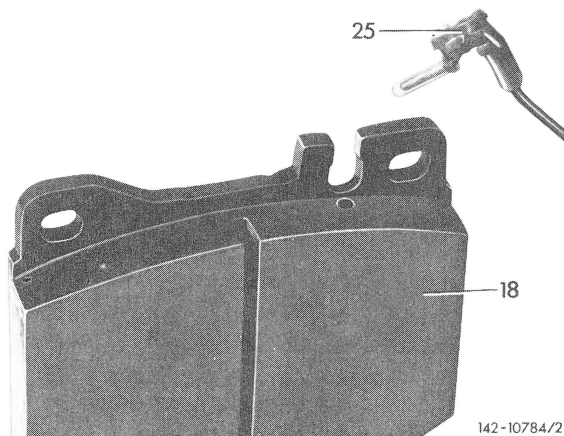

Fig. 8
6 On vehicles with brake lining wear indicator, pull clip sensor (25) out of lining backing plate or brake lining (Fig. 8).
12 On vehicles with brake lining wear indicator, insert clip sensor (25) into lining backing plate and brake lining (Fig. 8).